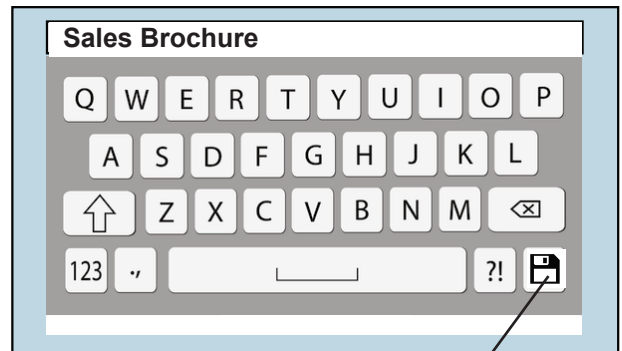

Fig. 19 Save icon
3. To rename a job, select the job from the list and press the letter icon  (Fig. 18). Use the keypad to change the name and press the save icon in the lower right corner (Fig. 19).